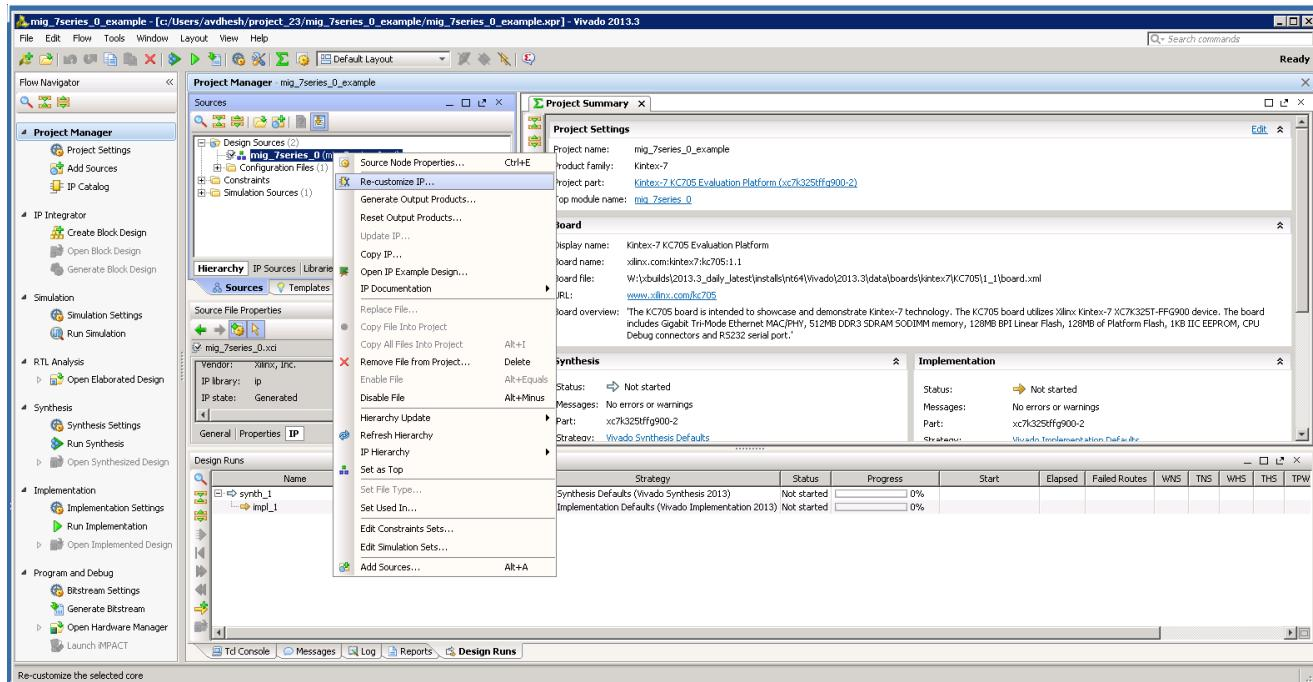

Figure 3-34: Recustomize IP
- Recustomization of the MIG IP core can be done by using the **Recustomize IP** option. It is not recommended to recustomize the IP in the `example_design` project. The correct solution is to close the `example_design` project, go back to original project and customize there. Right-click the XCI file and click **Recustomize IP** (Figure 3-34) to open the MIG GUI and regenerate the design with the preferred options.